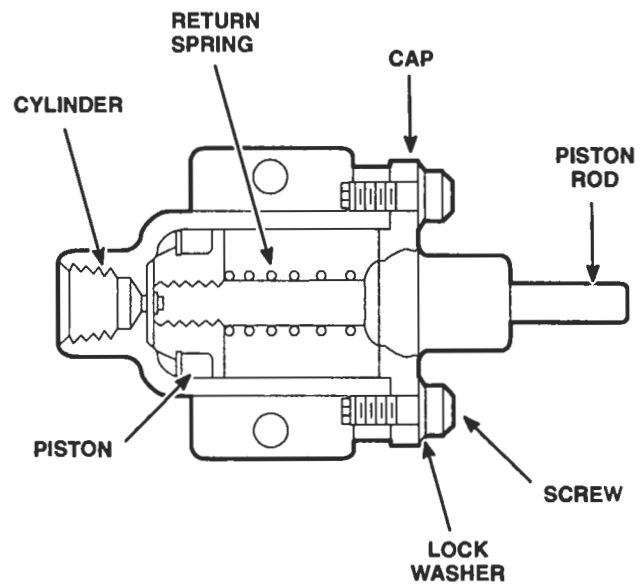

Figure 3. Throttle Locking Air Cylinder
2. Lock the governor throttle in the idle position and apply full shop air pressure to the fast idle air cylinder. The engine idle speed must increase 250–550 r/min, depending upon the dual idle spring used. The throttle locking air cylinder is adjusted when it is activated, but will not limit the throttle movement when not activated. (Figure 3.).